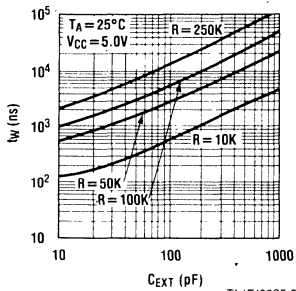

FIGURE 1
3. The pulse width is essentially determined by external timing components R_X and C_X . For $C_X < 1000$ pF see *Figure 1*; design curves on T_W as function of timing components value. For $C_X \gg 1000$ pF the output is defined as: